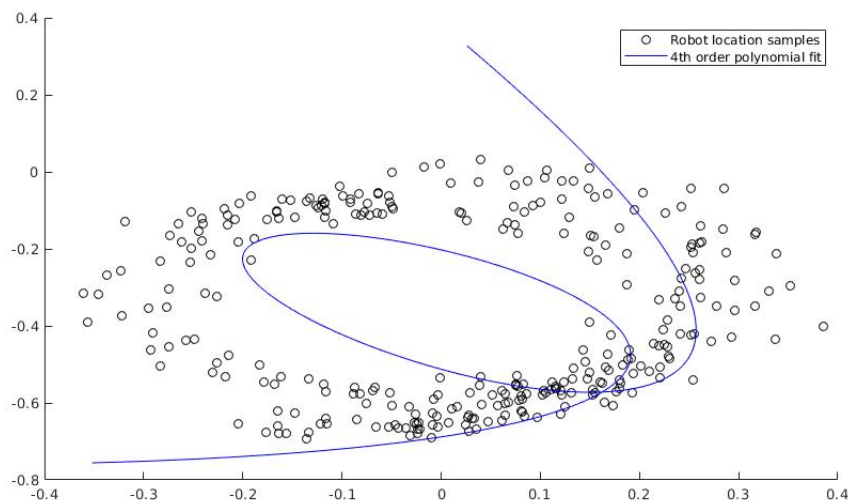

Figure 1: Fit from Exercise 7
- (d) MATLAB: Compute the simulated trajectory using θ^* and plot it versus the measurements using the provided code and compare it to the 4th order polynomial fit shown in Figure 1 (this is what you did for the last exercise sheet).